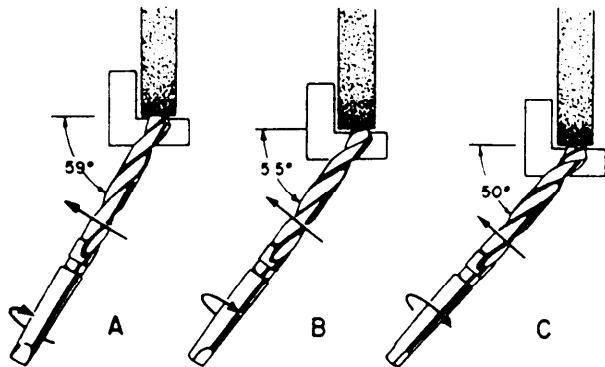
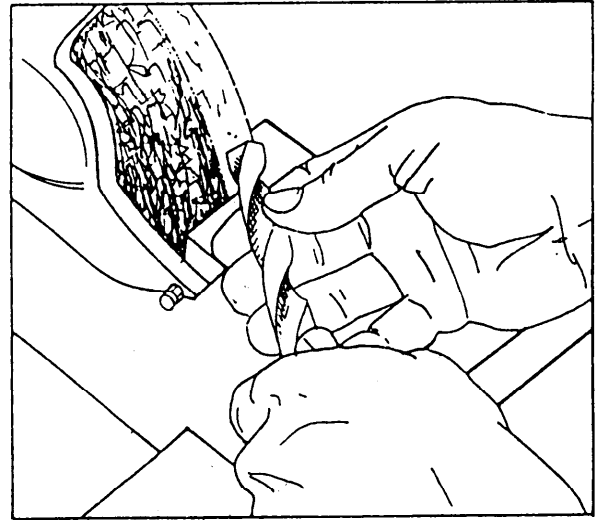
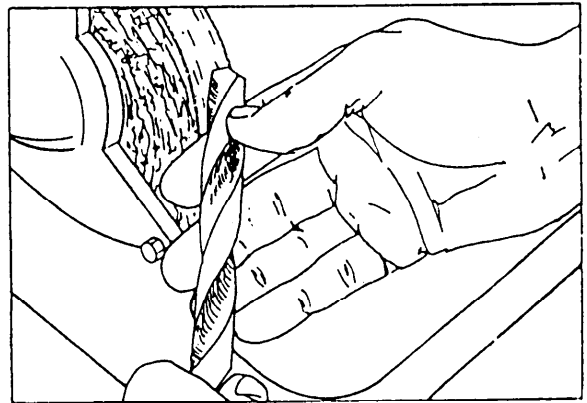

Figure 5-34.—Three steps for grinding a twist drill with a grinder.
Figure 5-35.—Grinding a twist drill with a grinder (initial position).
Figure 5-36.—Grinding a twist drill with a grinder (final position).
To sharpen a twist drill, first ensure the grinder is ready. If necessary, dress the face of the wheel and adjust the toolrest. Start the grinder, let it come up to speed, and begin. Hold the twist drill as shown in figure 5-34, view A, which is a top view of the first step in grinding a drill. In the first step, be sure the axis of the drill makes an angle of about 59° (half of the drill-point angle) with the face of the wheel as shown in fig. 5-34, view A. Hold the cutting lip horizontal. Figure 5-35 is a side view of the same drill position shown in figure 5-34, view A.
Figure 5-34 shows the motion to the left in three views as the angle between the face of the wheel and the drill decreases from about 59° to about 50° .
In figure 5-34, the rotation arrows in views A, B, and C show the clockwise motion. The change in the position of the cutting lip and tang also shows rotation.
Because figure 5-34 is a top view, the downward motion is not noticeable. However all three motions are apparent when you compare the final position of the drill in figure 5-36 to the view in figure 5-35. All three motions taking place at the same time combine to produce the requirements mentioned earlier in this section: (1) equal and correctly sized drill-point angles, (2) equal-length cutting lengths, (3) correct clearance behind the cutting lips, and (4) correct